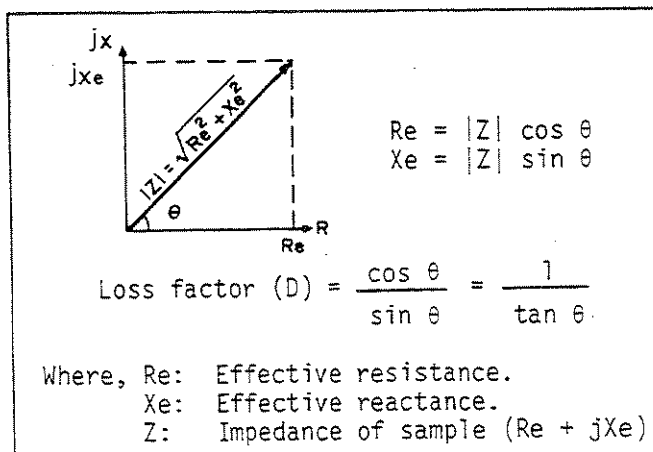

Figure 3-13. Impedance Vector Representation.
Impedance of a component can be expressed in vector representation by a complex number as shown in Figure 3-13. In such representation, the effective resistance and effective reactance correspond to the projections of the impedance vector $|Z| \angle \theta$, that is, the real (R) axis and the imaginary (jX) axis, respectively.